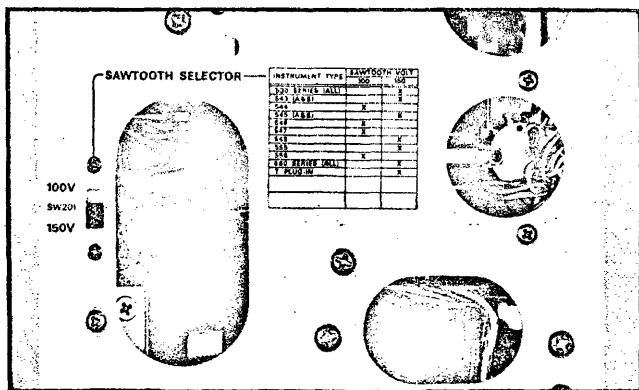

Fig. 2-4. Rear panel of the Type 1L30 showing sawtooth selector.
a. Set the Sweep Voltage selector at the rear panel (see Fig. 2-4) Type 1L30 to the correct position (100 V or 150 V) for the oscilloscope being used. Some Tektronix Type Oscilloscopes and their sweep voltage output are listed in Table 2-1 and on the back panel of the instrument. If your oscilloscope is not listed, check the specifications given in the oscilloscope instruction manual for the front panel sawtooth out signal amplitude.